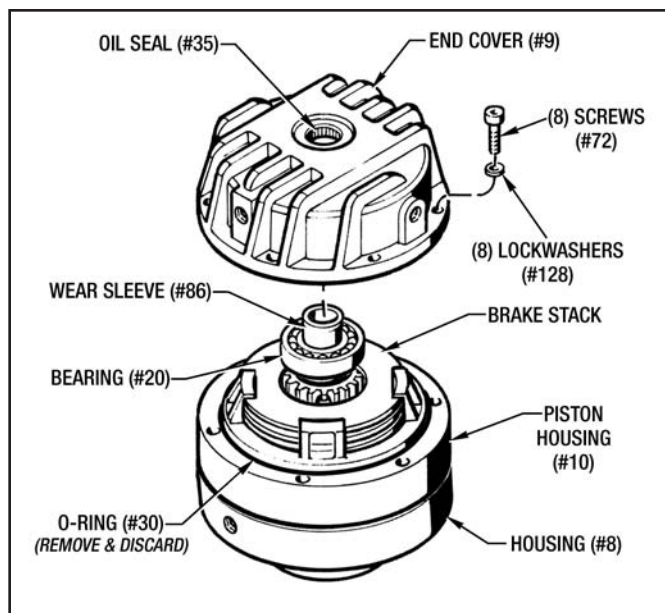

Figure 7.1 - Removing End Housing (#8)
2. Remove the (8) Screws (#72) and (8) Lockwashers (#128). Carefully lift the End Housing (#8) up off the brake. (See *Figure 7.1*)